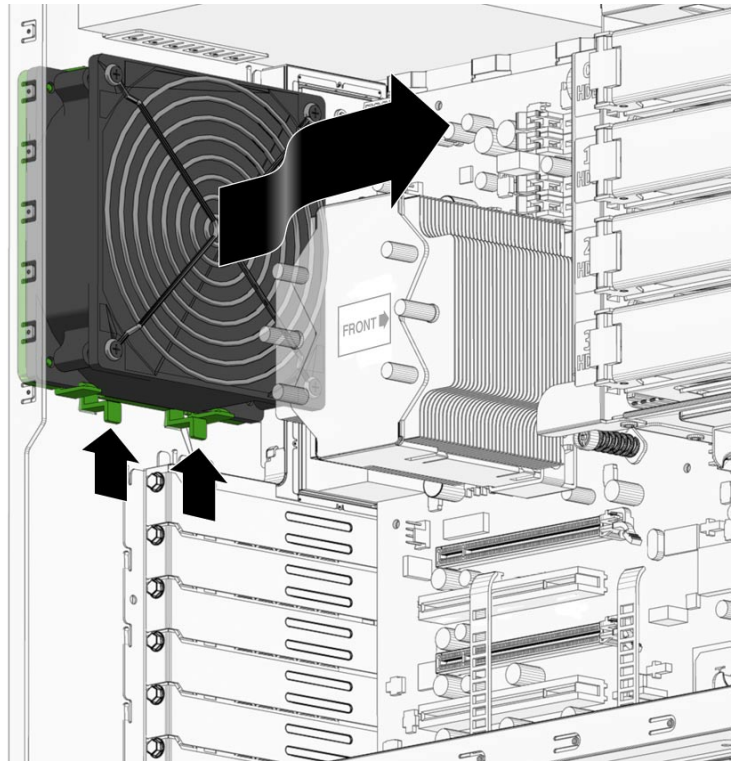

FIGURE 3-24 Removing the System Fan
- 7 Slide the fan assembly down to release the four hooks on the back of the bracket from the holes in the chassis (see Figure 3-24).